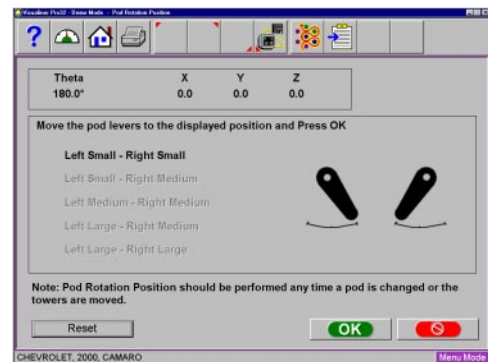

Figure 3-118
2. Adjust the camera lever's to the illustrated position shown on the screen and click on **<OK>**. (Figure 3-118)